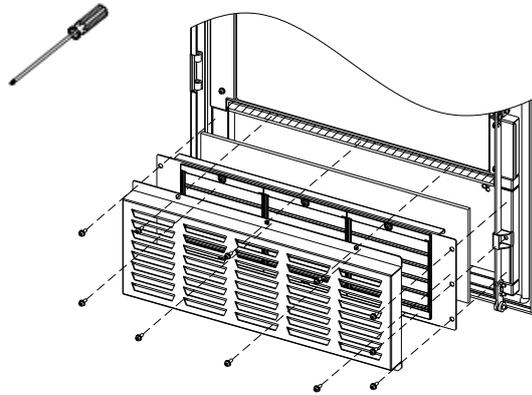

Figure 4-4 Replace Air Inlet Filter
1) Remove the (11 pcs) screws of the front door wind scooper in Figure 4-4, remove the old filter, and replace it with a new filter.